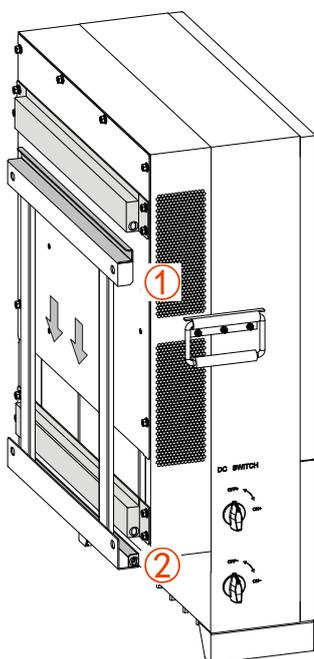

Figure3-7 Fasten the inverter to the installation holder
Step 5 As shown in Figure3-7, uplift the inverter and insert the holes in the back of the inverter into the bulge of installation holder(total two positions) slowly. It can't release the inverter until it has been fastened firmly.